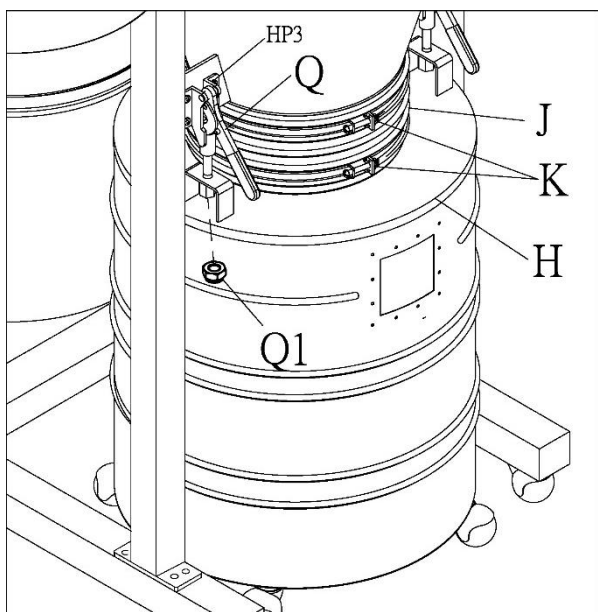

Figure 12
17. Install hose (J) onto cone and drum lid and secure with two hose clamps (K), at top and bottom. See Figure 12.
20. Pull down both quick levers (Q, Figure 12) then assemble drum lid (H, Figure 12) to quick levers. Tighten long nut (Q1, Figure 12) onto each quick lever.